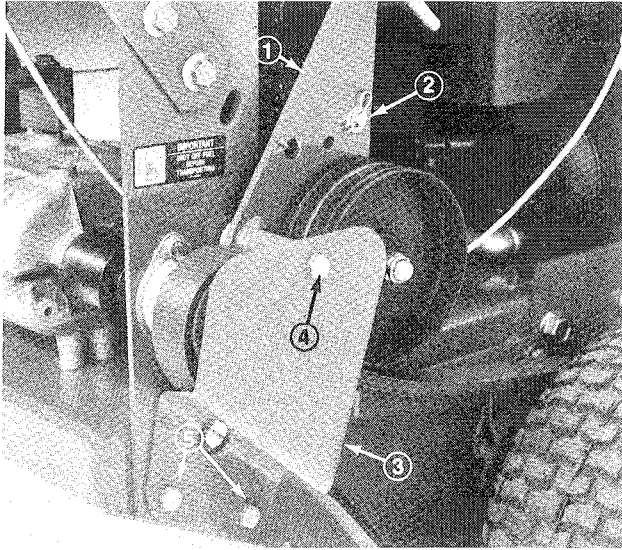

Figure 20
1. Remove top capscrew securing idler support and idler bracket to rear frame (Fig. 20).
2. Loosen bottom two mounting screws enough to allow belt to pass between drive pulley and idler support (Fig. 20).